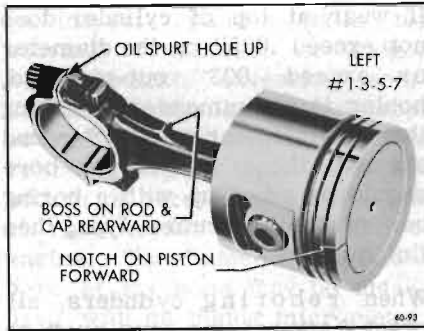

Figure 60-334—Left Bank Piston and Rod Assembly
2. If the piston and rod assembly is to be installed in the left bank, the assembly must be made as shown in Figure 60-334.